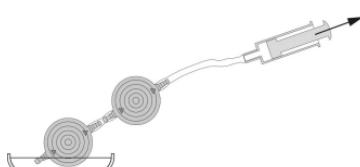

Fig. 20: Patency test
M.blue plus should be vented before implantation and checked for permeability. The most careful way of filling the valve is by aspiration through a sterile single-use syringe attached to the distal end of the catheter. The distal end of the valve is connected and immersed in a sterile physiological salt solution. The valve is continuous if saline solution can be extracted (fig. 20).